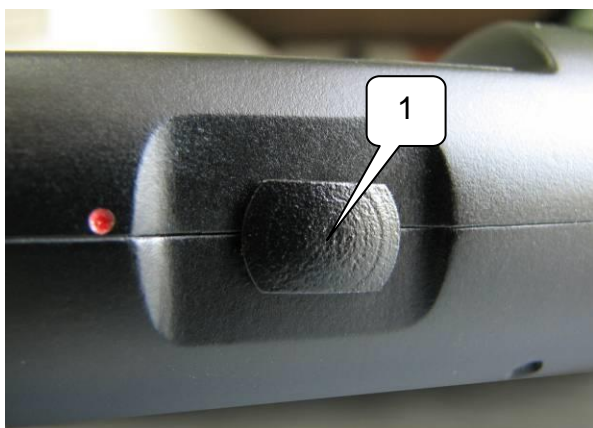

Fig. 5
4.4. On the side surface of the control panel (see 1 in Fig. 5) a slide-type power switch is placed. A slide position corresponding to «ON» is marked by a contrast point. Each time before operating the device it is recommended to make the full charging of the battery.
6.2. To start operation set the battery and turn «LORNET-24» on by the power switch placed on the control panel (Fig.5). The 2nd and 3rd indicators on the control panel will light up, indicating that the detector has been powered on.